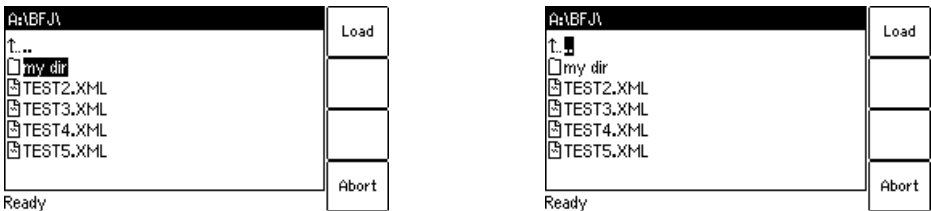

Figure 5-7 File system card for loading a report
After selecting one of the available file operation functions in the **File Menu**, the file system card is displayed showing the current path in its title bar and the file system elements in the card area (refer to Figure 5-7).
- To open a folder, select its entry (see Figure 5-7, left) using the   cursor keys and then press the  key.